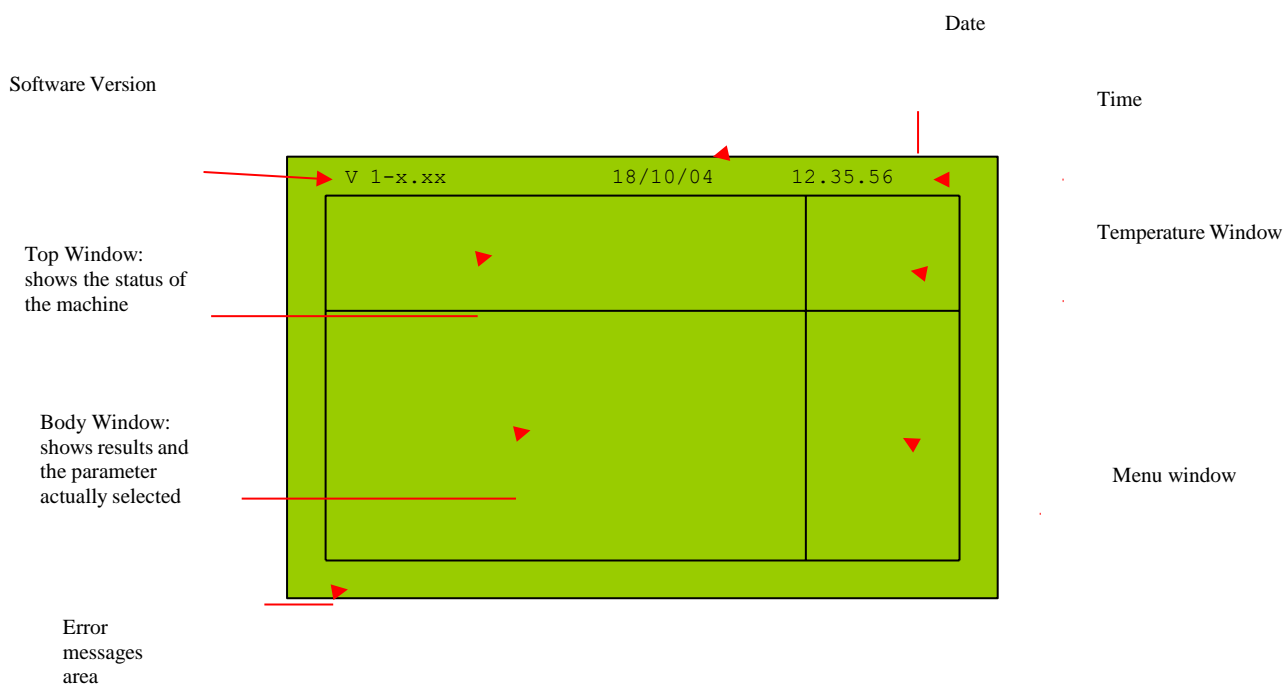

Fig.1 Display's Layout
- Switch on the instrument: the display will show the number of software version, the date and the time in their correct position (see Fig. 1).